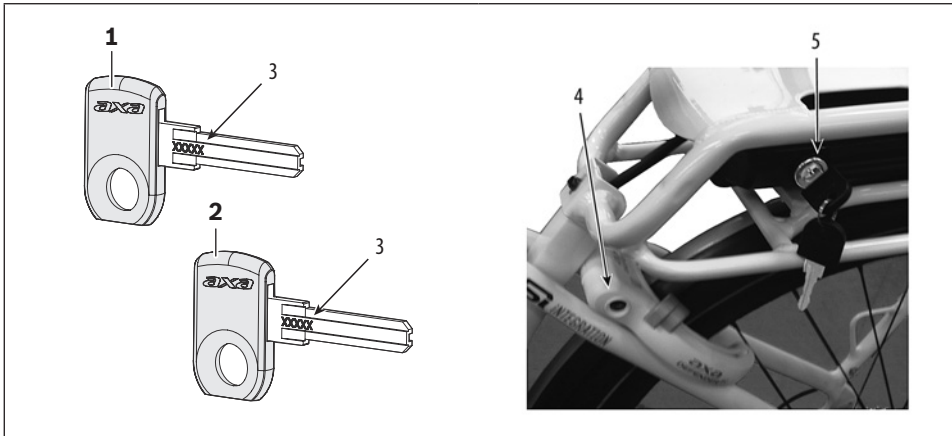

Figure 11.
See Figure 11. Your E-Series bike comes with a main key (1) and spare key (2). The keys are identified by the serial number (3). The keys work in both the rear wheel frame lock and the BOSCH battery lock. Please record the key serial number for future use and key replacement. If your keys are ever lost or stolen, or you would like additional spares, please contact AXA BASTA for ordering information. AXA BASTA website: <http://www.axa-basta.nl/keyservice-eng.html>